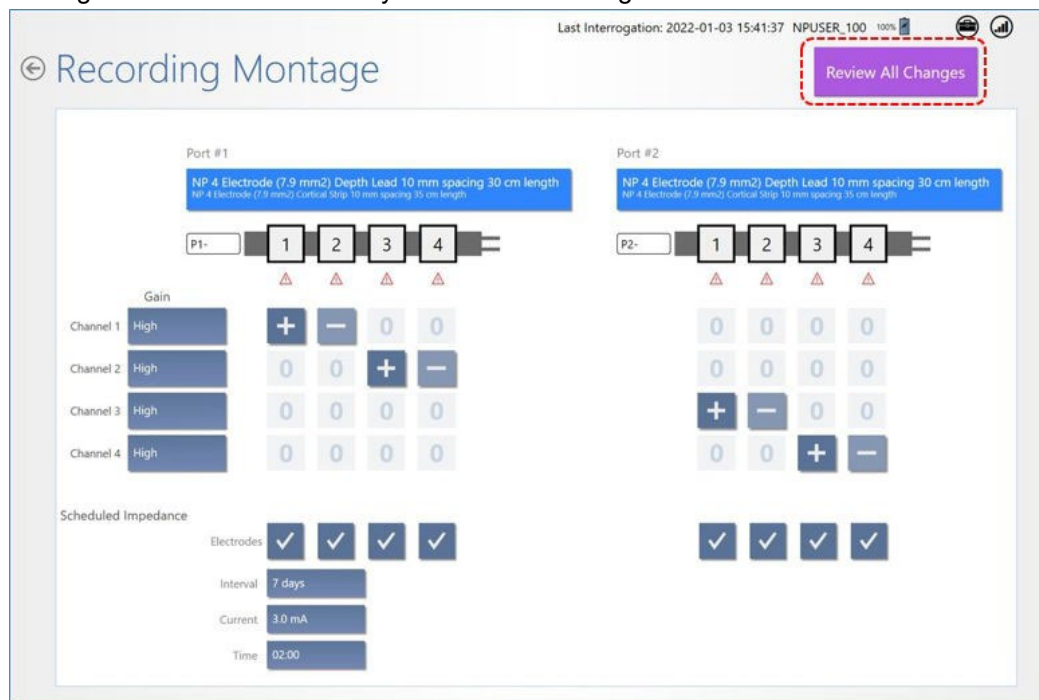
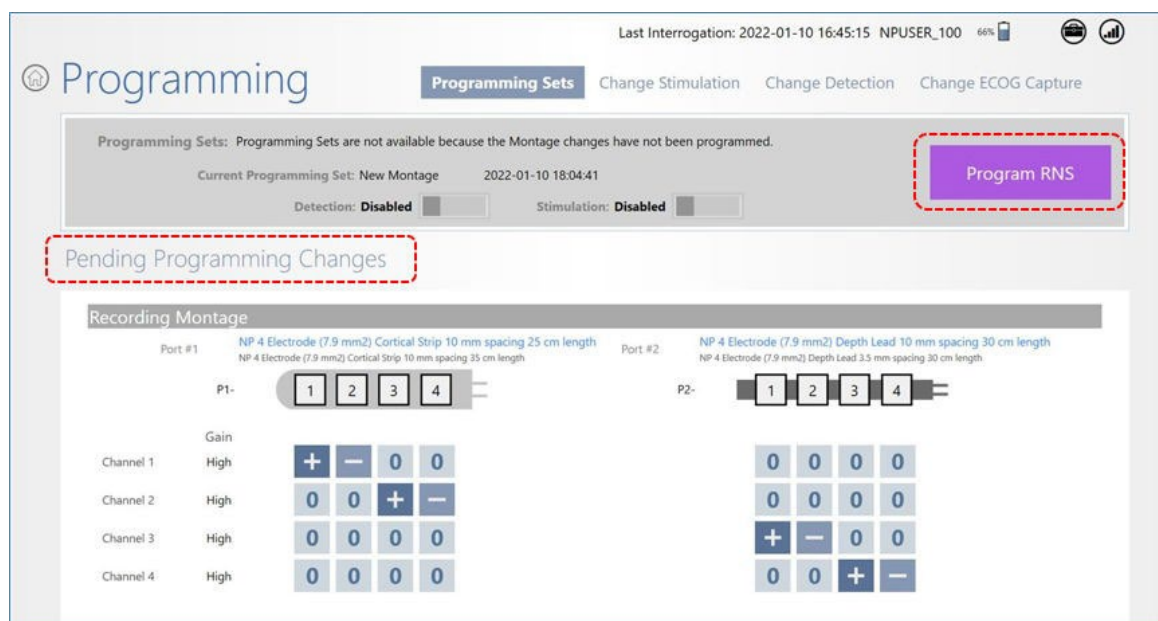

Figure 25: Recommended initial montage settings
Figure 26: Pending Programming Changes for montage
7. Select **REVIEW ALL CHANGES** at upper right (*Figure 25* on page 47). All **PENDING PROGRAM CHANGES** appear on the **PROGRAMMING SETS** screen (*Figure 26* on page 47) for your review before programming. Scroll down if necessary to see all the changes.